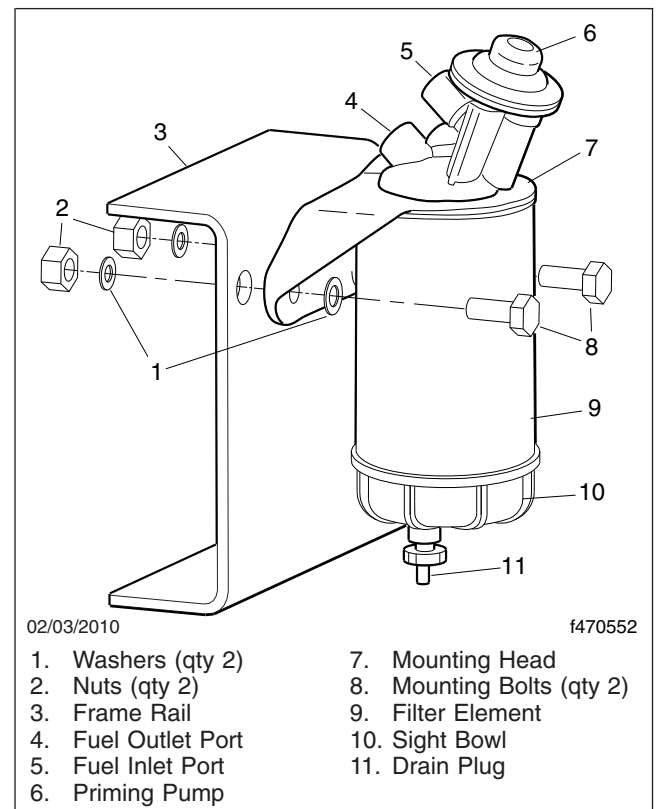

Fig. 21.15, Alliance Fuel/Water Separator Assembly and Installation
- 5.3 *Alliance/Racor Models:* Turn the drain plug counterclockwise to open it. See **Fig. 21.15**.